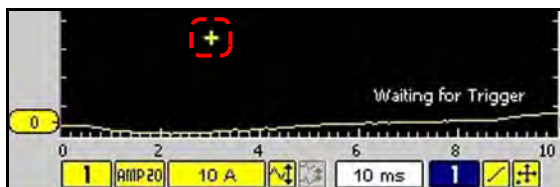

Figure 5-58 Sample Trigger Position marker
- If a Channel trigger (Ch1–2) is selected, a plus sign (+) colored according to the channel it represents displays in the graph area (Figure 5-58).